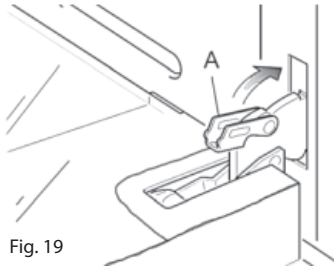

Fig. 19
- As seen in Figure 19, completely close the «A» arms on the left and right side.